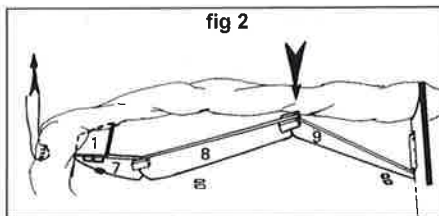
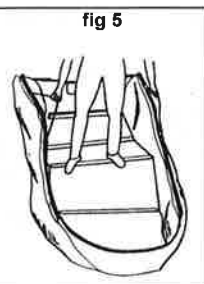

fig 3
fig 6
6. **Respecting the order** : **slide** element (2) against element (1), element (3) against element (2) then slide element (6) against the transom retaining batten (10) [fig 6], and position elements (4) and 5 as an apex. [fig.3]. **IMPORTANT:** Check the good position of the keel into its blocks.